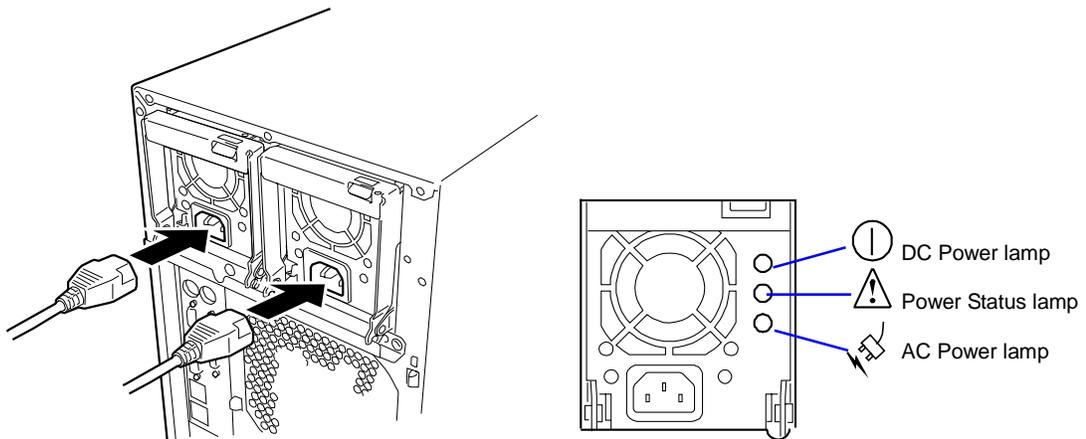

Figure 4-31. Connecting the Power Cords
7. Connect two power cords to the AC inlets. The AC Power lamps go on and DC Power lamps blink when the power cords are connected. See Figure 4-31.